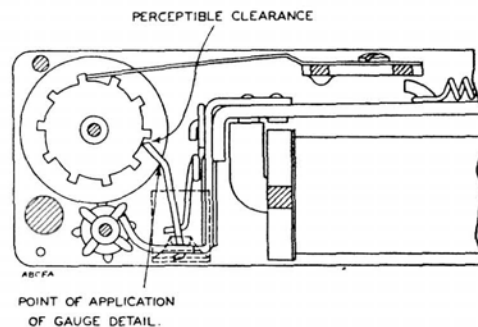

FIG. 8.—ADJUSTMENT OF OPERATING PAWL
10. Operating pawl.—The operating pawl must be free on its bearings. There must be a perceptible clearance between the tip of the operating pawl, and the ratchet tooth when the armature is operated (see Fig. 8).
pawl tip as possible (see Fig. 8). Do not attempt to adjust the spring; if the pressure is not within the tolerances allowed, change the spring. ["Part No. 1/SSP/622."]